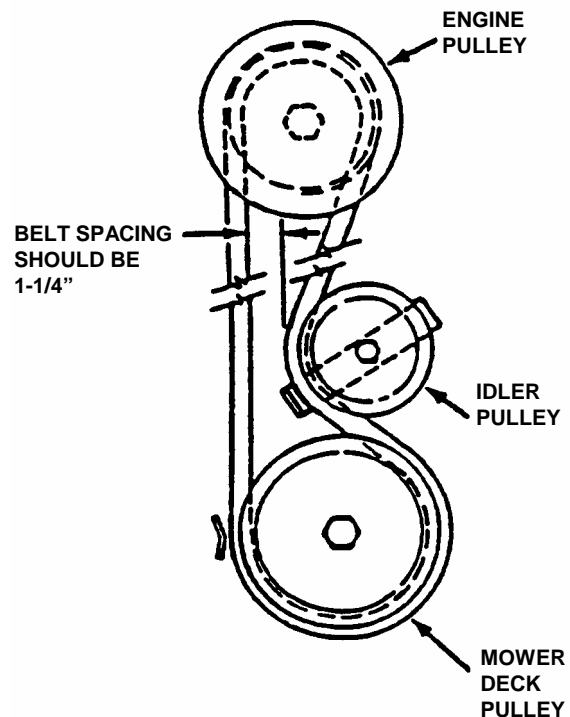

FIGURE 3.4
5. **28" Decks:** Measure the belt spacing at idler pulley. See Figure 3.4. The belt spacing should be 1-1/4" but no less than 1". If the measurement is less than 1", the belt tension should be adjusted. Refer to Section "BLADE DRIVE BELT ADJUSTMENT".